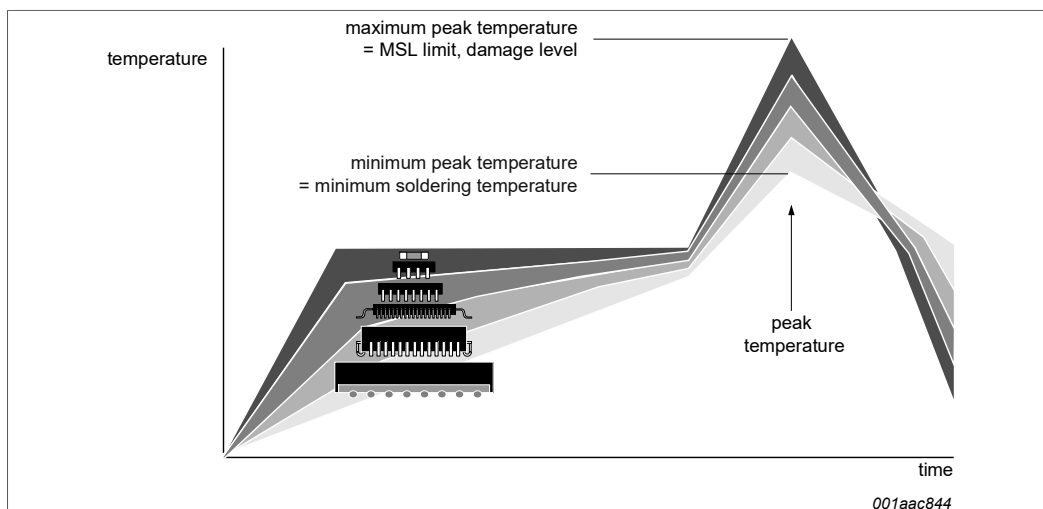

Figure 23. Temperature profiles for large and small components
- Lead-free versus SnPb soldering; note that a lead-free reflow process usually leads to higher minimum peak temperatures (see Figure 23) than a SnPb process, thus reducing the process window
Studies have shown that small packages reach higher temperatures during reflow soldering, see Figure 23.